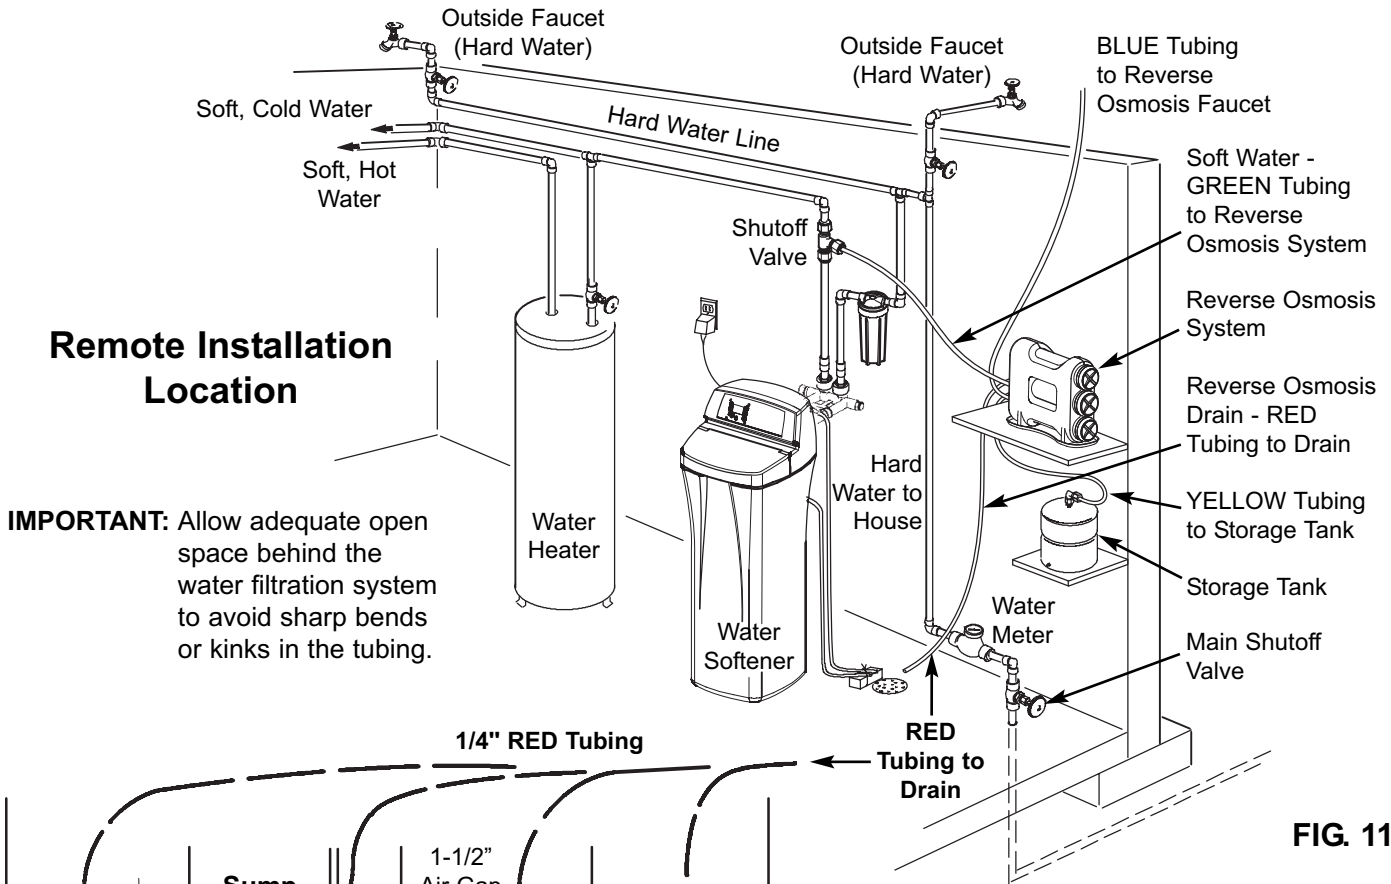

FIG. 11
(See Fig 11 & 12) This is usually used in remote location type installations. The drain tube from the Reverse Osmosis Filter runs directly to an open drain. See Fig. 11 & 12.
1. Locate the 1/4" red tube and determine whether it is long enough to reach from the Reverse Osmosis filter assembly to the drain point. See Fig. 11.